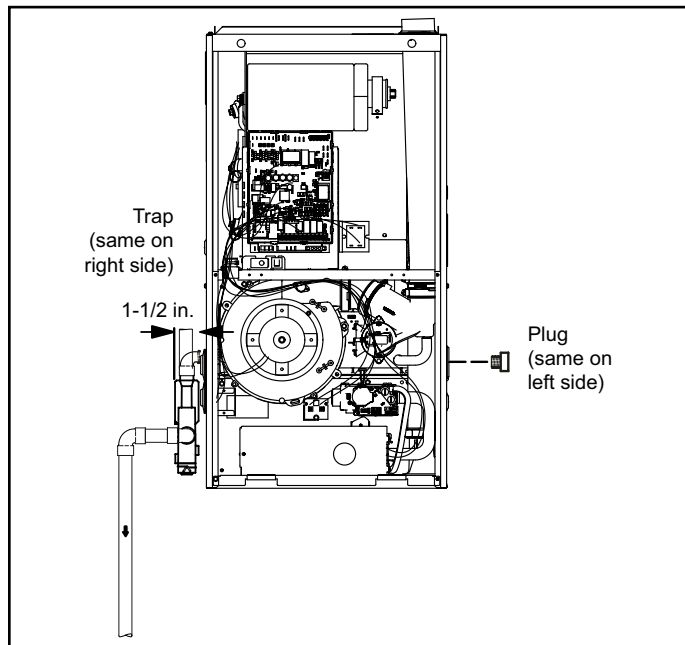

Figure 41. Condensate Trap and Plug Locations
3. If exhaust piping must be run up a sidewall to position above snow accumulation or other obstructions, piping must be supported every 24" (610 mm) as shown in Figure 41. When exhaust piping must be run up an outside wall, any reduction in exhaust pipe size must be done after the final elbow.